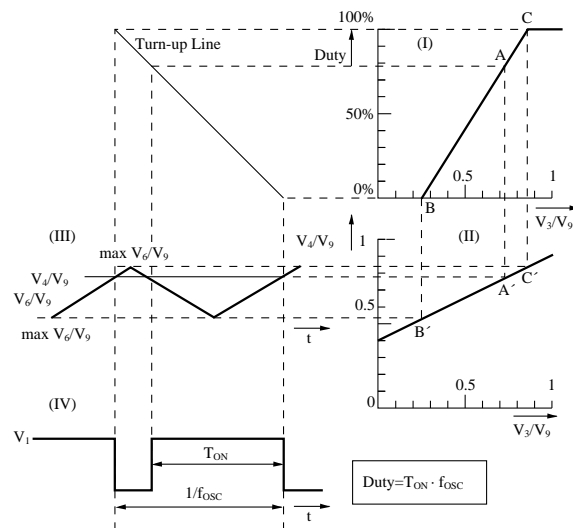

Fig. 2 I/O Characteristic Chart
The PWM method is used to control the output transistors. This method, as shown in Fig. 2 I/O Characteristic Chart (III), generates the triangular wave V_6 as a reference signal
For your reference, Fig. 3 shows the relations among C_T , R_T , and oscillation frequency f_{osc} . The voltage V_4 , whose voltage level is made matching the amplitude of the triangular wave by the control voltage converter, is given to the other input (Pin4) of the PWM comparator. That is, in Fig. 2 (II), the input voltage V_3 is linearly converted into V_4 by the control voltage converter so that the amplitude of the triangular wave will be about 20% to 80% of the input voltage input range (axis of abscissas in Fig. 2 (II)).
Then, a current is supplied from the output Pin1 to turn on the output transistors during the period (T_{ON}) when the inverted input voltage is larger than the triangular wave. (Fig. 2 (II), (IV)) To the contrary, while the converted input voltage is smaller than the triangular wave, no current is supplied from the output Pin1 and the output transistors are turned off. The output pulse duty is expressed as follows.